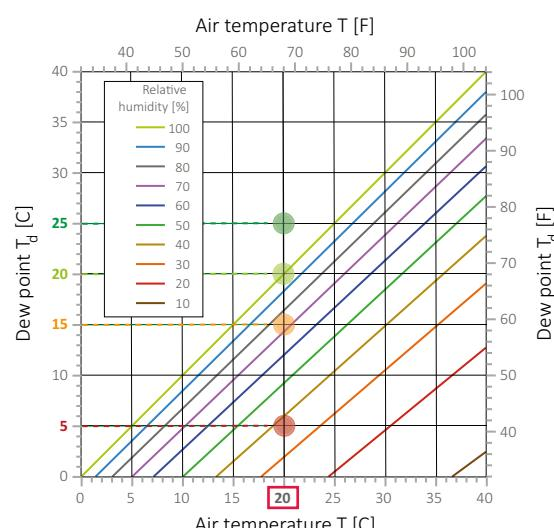

Figure 10: Dew points versus air temperature
- Set all values for `SensorTemperatureSetpointValue` carefully according to Figure 10.
In Figure 10, you can see the correlation between air temperature at the sensor surface and the dew point. If the sensor temperature is less than or equal to the dew point temperature, condensation occurs.
The example in Figure 10 applies to an air temperature of 20 °C at the sensor surface.